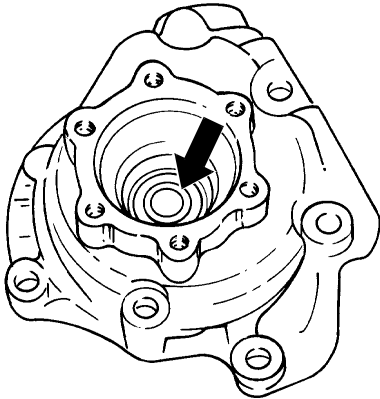

Figure 88 - Rear Sealing Ring
- a. Insert the rear sealing ring (Fig 88) in the coolant pump housing and knock it onto its seat using a suitable drift and a hammer.